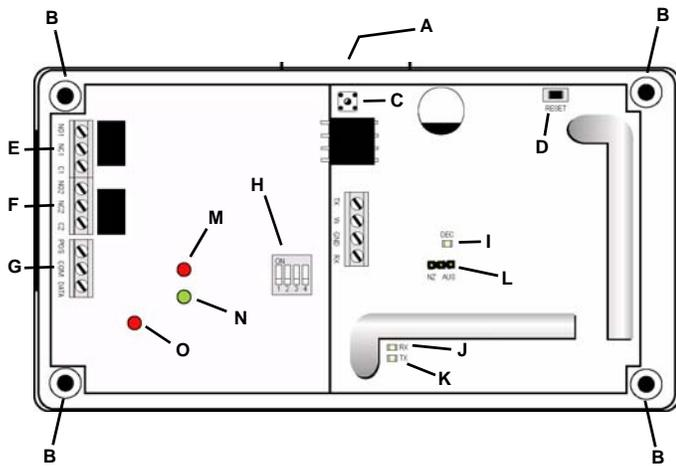

Figure 1 EN7286NX components
1. Use a small screwdriver to press the housing release tab (Figure 1, A); separate the housing.
2. Place a selection jumper on the appropriate frequency band selection pins (Figure 1, L).
1. Connect the serial receiver interface data terminal block (Figure 1, G) to the NX Panel. Cabling should meet the following specifications:
- Connect POS on the power/data terminal block (Figure 1, G) to POS on the GE NetworX Panel.
- Connect COM on the power/data terminal block (Figure 1, G) to COM on the GE NetworX Panel.
- Connect DATA on the power/data terminal block (Figure 1, G) to DATA on the GE NetworX Panel.
2. Connect the relay 1 (Figure 1, E) and 2 (Figure 1, F) terminal blocks to external devices as desired.
Dipswitches 1 and 2 (Figure 1, H) are used to set the serial receiver interface address. Use the following table to choose settings appropriate for your installation:
Dipswitches 3 and 4 (Figure 1, H) are used to set the functionality of buttons 3 and 4 on four-button transmitters.